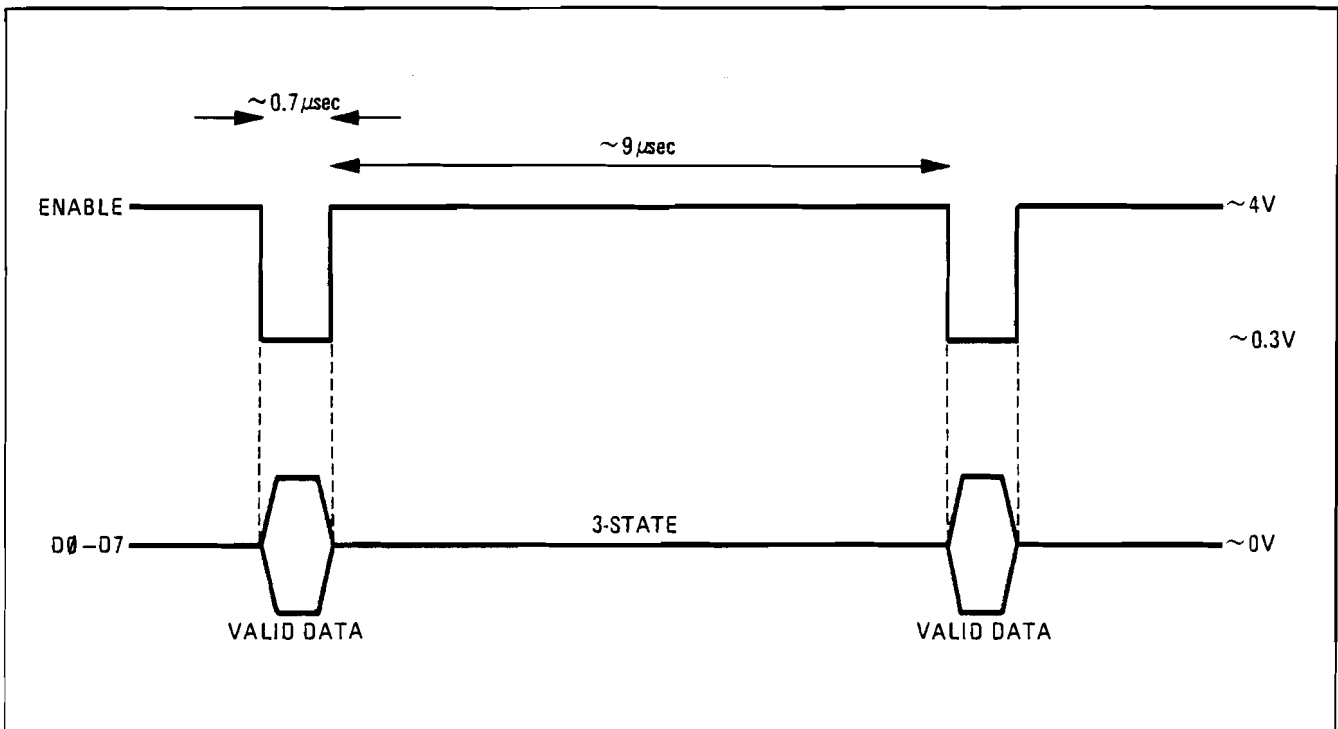

Figure 8-3. Hex Addressed Fast Read – Timing Diagram
- **HEX ADDRESSED FAST READ, MS**, provides an operator-initiated check for verification of the data bus, in which the addressed device is clocked in real time. Latch outputs can be traced from the on-board location back through the data bus to the microprocessor. At each buffer, verify TTL level response to the enable pulse. Enable line waveforms are shown in Figure 8-3.